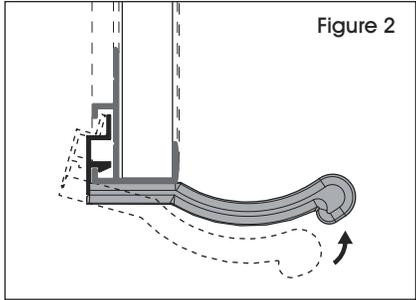

Figure 2
2. Insert marker tray at approximately a 15° angle into back channel of board frame. Rotate tray to fully engage bottom of channel. (See Figure 2)